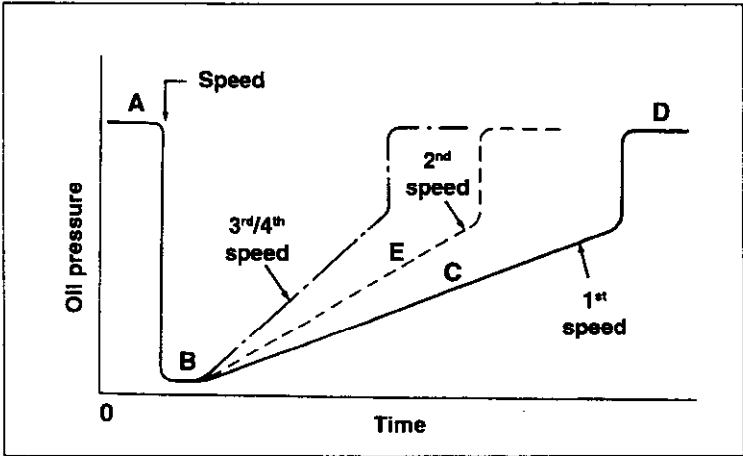

Fig. 2-24 Variation curves of clutches engagement oil pressure
Forw./Rev. in Neutral, 3rd speed in Neutral**(Point A of fig. 2-24)**
(Point **B** of fig. 2-24)
(Point C of fig. 2-24)
(Point D of fig. 2-24)
(Point E of Fig. 2-24)
2. The oil of circuit (32) goes through the spool and the REV. solenoid valve to be discharged.
3. Being both solenoid valves **A** and **B** of the gear-shift spools not energised, the pressure in the 3rd speed clutch increases (refer to Fig. 2-24). Consequently, the loader will travel in 3rd forward.